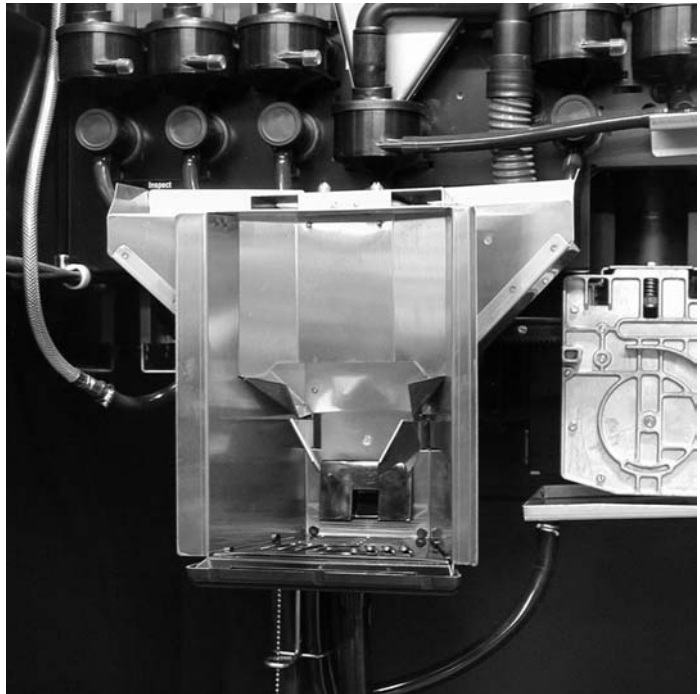

Figure 1
2. Remove existing cup station (See Figure 1).